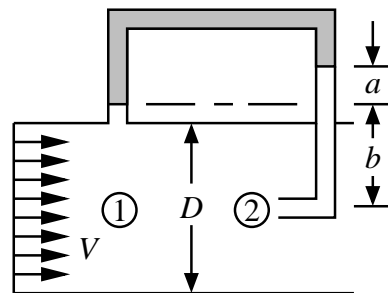

Figure 2: *Simple flowmeter.*
2. (10 pts) Fig. 2 shows a simple velocity measuring device for liquids. The device has a circular cross-section of diameter  $D$ . The liquid whose velocity is to be determined has a density  $\rho$ , while the manometer fluid (the shaded portion) has a density of  $\rho_m$ , where  $\rho_m < \rho$ . Calculate the velocity  $V$ , given the manometer fluid displacement shown in the figure. Reference points 1 and 2 may help to cast the problem.